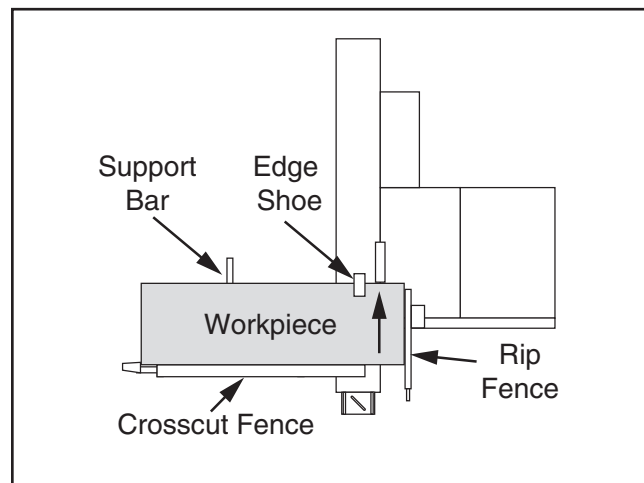

Figure 117. Crosscutting using the rip fence as a cut-off gauge.
When set up properly, the crosscut fence can support workpieces while using the rip fence as a cut-off gauge, as shown in **Figure 117**.
1. Install crosscut fence in rear position of crosscut table, as illustrated in **Figure 117** on **Page 59**.